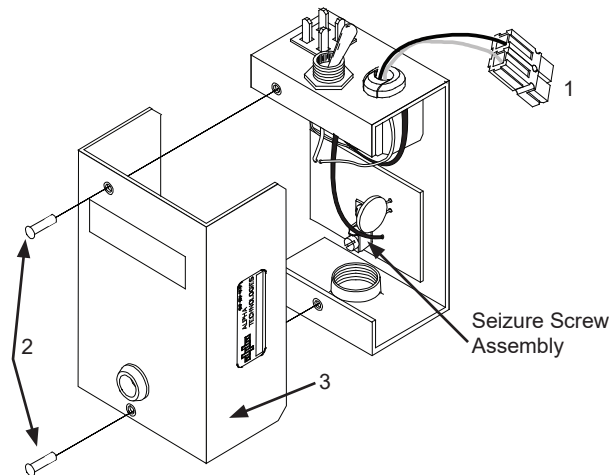

Fig. 3-4, SPI Cover Removal
2. Remove the two screws on the face of the SPI and lift off the cover to gain access to the seizure screw assembly. (Fig. 3-4)